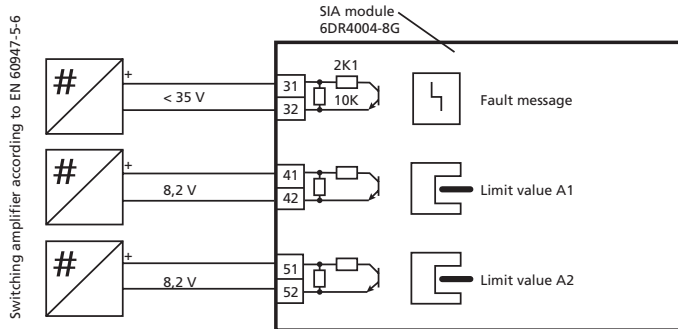

Figure 14. - SIA unit 6DR4004-8G, not Ex
13. Refer to Figures 14 and 15 to connect the SIA module in standard and intrinsically safe applications
11. Refer to Figures 14 and 15 to reconnect the SIA module in standard and intrinsically safe applications